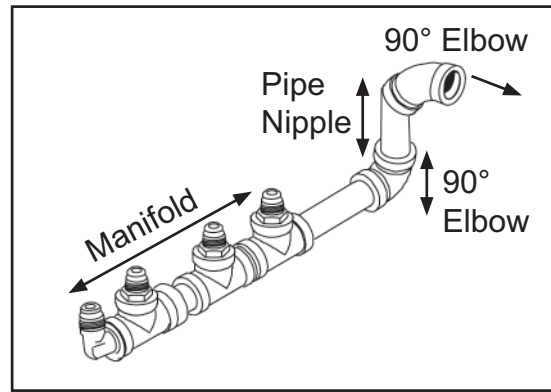

Figure 3
18. Remove the protective tape from the manifold and attach a new 90° elbow at its open end. Tighten until the elbow points in the same direction as the ports on the manifold. (This elbow is to point up after the manifold is reinstalled.) See Figure 3.
19. Connect the 3" pipe nipple to the new 90° elbow installed on the manifold in the previous step. Tighten the connection until the elbow at the opposite end forms a 90° angle, and is assembled as shown in Figure 3.